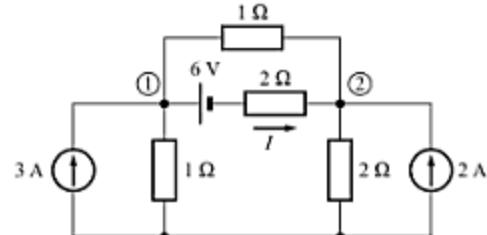

Fig. 3.80
21. Find the current  $I$  by using node-voltage analysis for the circuit given in Fig. 3.80.